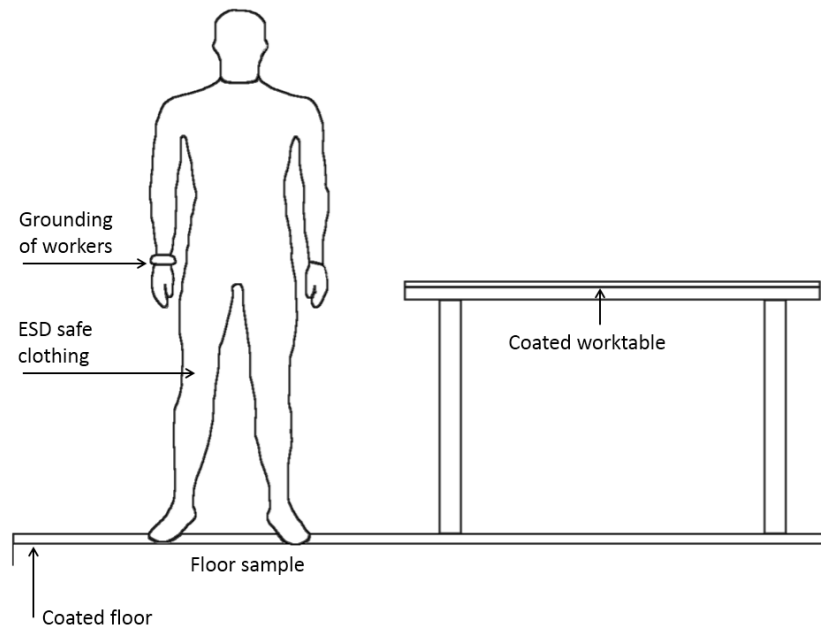

Figure 7 – Protection against ESD in manufacturing environments [source: Philips]
- As shown in Figure 7, workers should be grounded and wear ESD-safe clothing